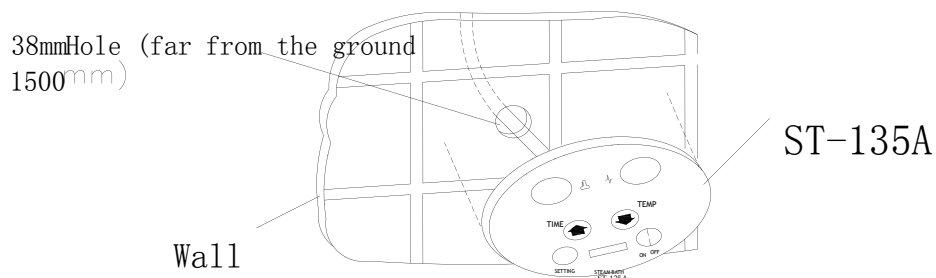

figure10
- 2, dig a hole before installation (hole’s diameter is 30mm), tear the adhesive’s protection paper behind the controller, fix the controller and then seal the sides with glass glue. (Figure 10)